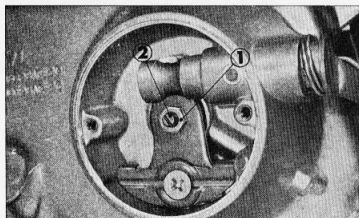

Figure 32. ① Adjusting screw ② Lock nut
- b. Remove the clutch cover and loosen the lock nut. Turn the adjusting screw clockwise until slight resistance is felt, then back off by 1/4 turn. (Fig. 32)